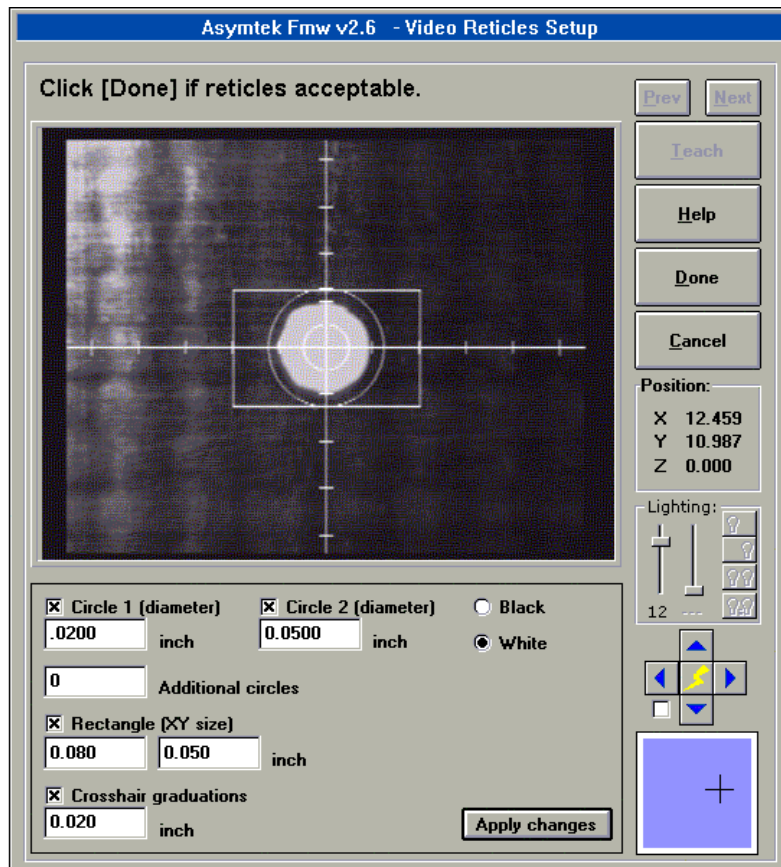

Figure 6-4
- ▶ A Teach Window, shown in Figure 6-4, opens.